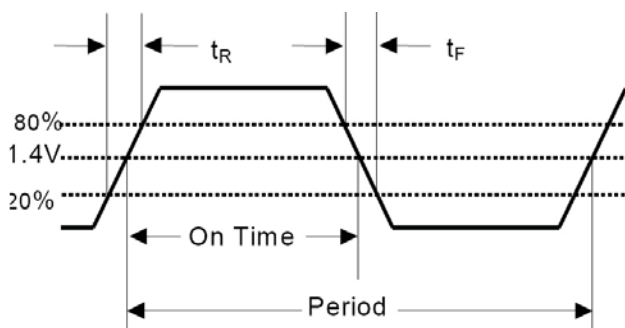
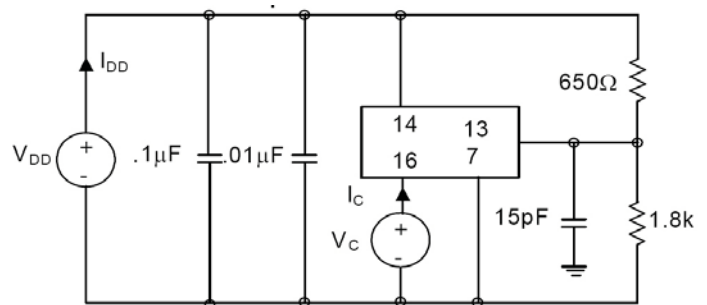

Figure 2. Output Waveform
Figure 3. OUT1, OUT2, RCLK, RDATA Test Conditions (25 ±5°C)
2. Figure 2 defines these parameters. Figure 3 illustrates the equivalent five gate TTL load and operating conditions under which these parameters are tested and specified. Loads greater than 15 pF will adversely effect rise/fall time as well as symmetry.